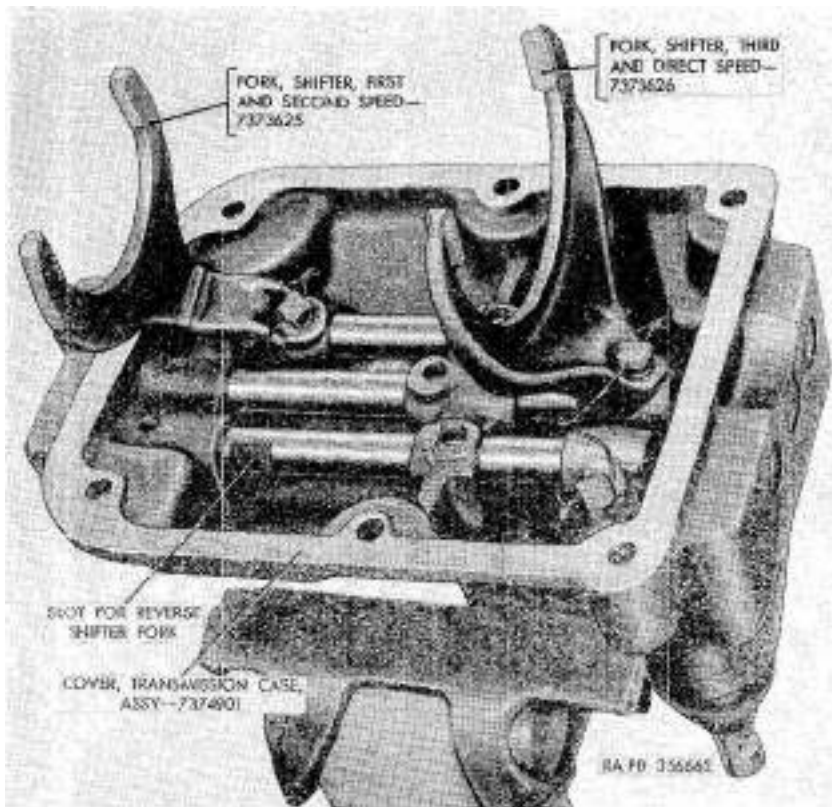

Figure 110. Transmission case cover assembly—bottom view.
a. *General.* Care must be exercised in disassembling the transmission case cover assembly (*fig. 110*) as the shifter shafts and shifter shaft interlock plungers will be damaged if the parts are not removed in the proper order. With the cover upside down, notice the position of the various forks and shifter shafts from the gear shift lever end.
- (1) Remove screw locking wire (AA) and $\frac{3}{4}$ -24NF x 27/32 square head screw (BB) from reverse shifter shaft lug assembly (CC).